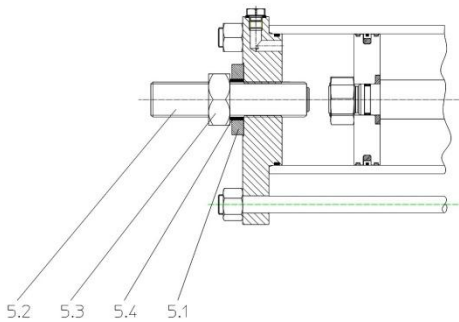
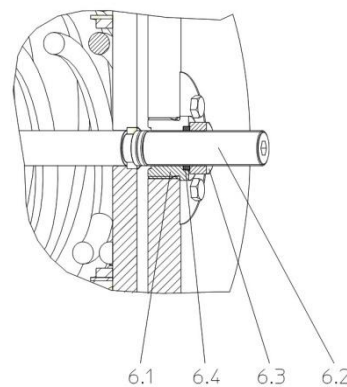

Fig. 5 – Stroke adjustment detail
Fig. 6 – Stroke adjustment detail
The setting of the open/closed valve position is performed by adjusting the setting screws foreseen into the end flanges of the cylinder and spring cartridge (see Fig. 5 and Fig. 6) following the instructions listed on the next paragraphs 7.2.1 and 7.2.2.
7.2.1.1 Setting of the stopper on the cylinder side (Fig. 5)
7.2.1.2 Setting of the stopper on the spring side (Fig. 6)